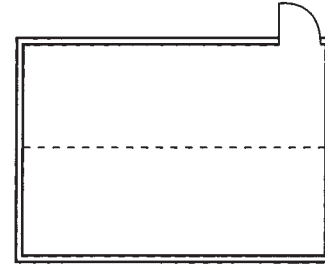

Fig. 23 - Center line
- Place a mark in the center of the floor at each end of the room. Snap a chalk line between the marks (Fig. 23).